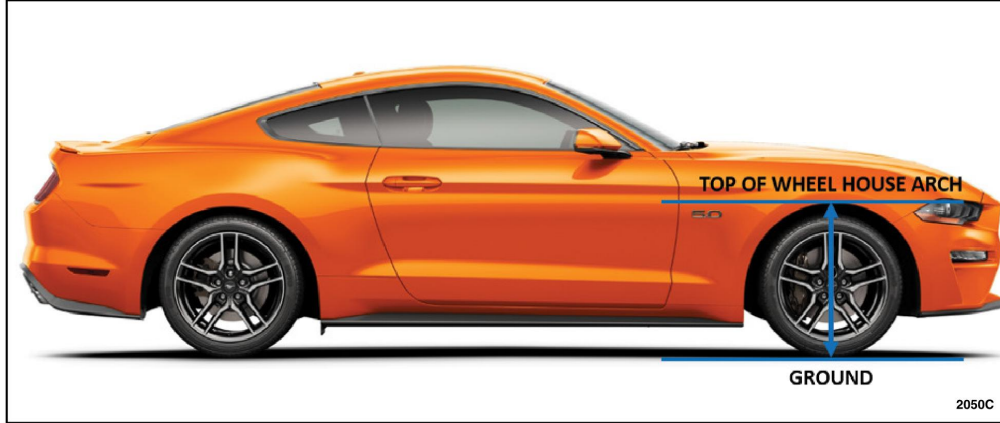

FIGURE 2
- 9. Measure and record the front wheel arch height measurements. See Figures 2 and 3.